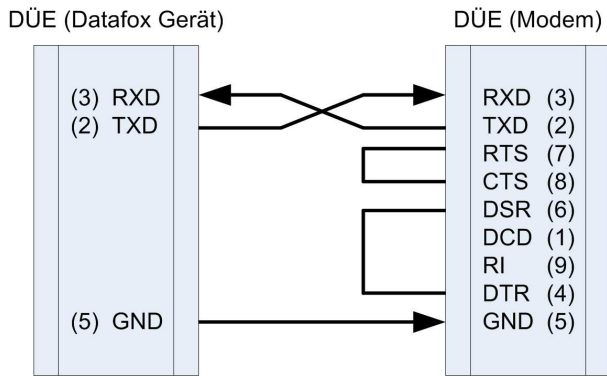

Figure 28: Wiring of the Null modem adaptor
**Analogous modem to analogous modem** (Wiring of the Null modem adaptor see figure 28)
**Mobile communications modem to mobile communications modem** (Wiring of the Null modem adaptor see figure 28)
**ISDN (terrestrial network) to mobile communications modem** (Wiring of the Null modem adaptor see figure 28)